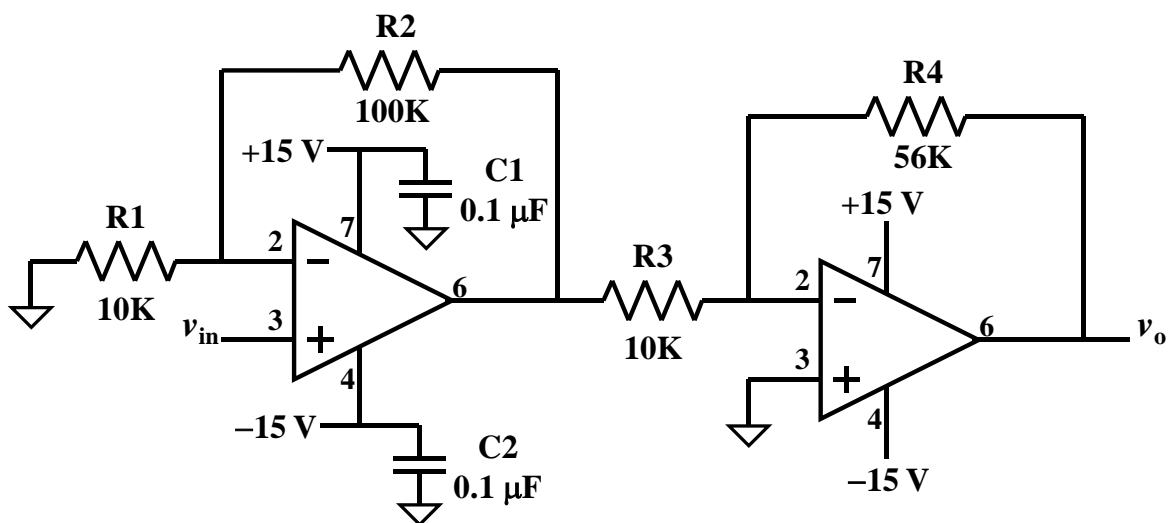

Fig. 5. Fourth op-amp circuit.
5. Consider the fourth circuit in Fig. 5.